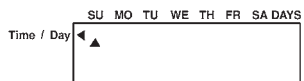

fig.13
- A small triangle indicating the day will appear on the higher part of the display (fig. 13).